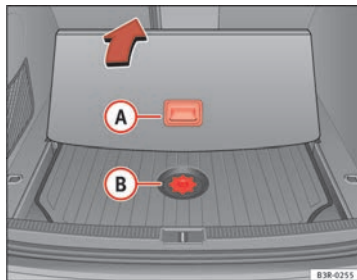

Fig. 191 Access to the toolbox and jack
- Take hold of handle **A** and fold back the floor panel in the luggage compartment ⇒ fig. 191.
- Unscrew the attachment screw from cover **B** ⇒ fig. 191.